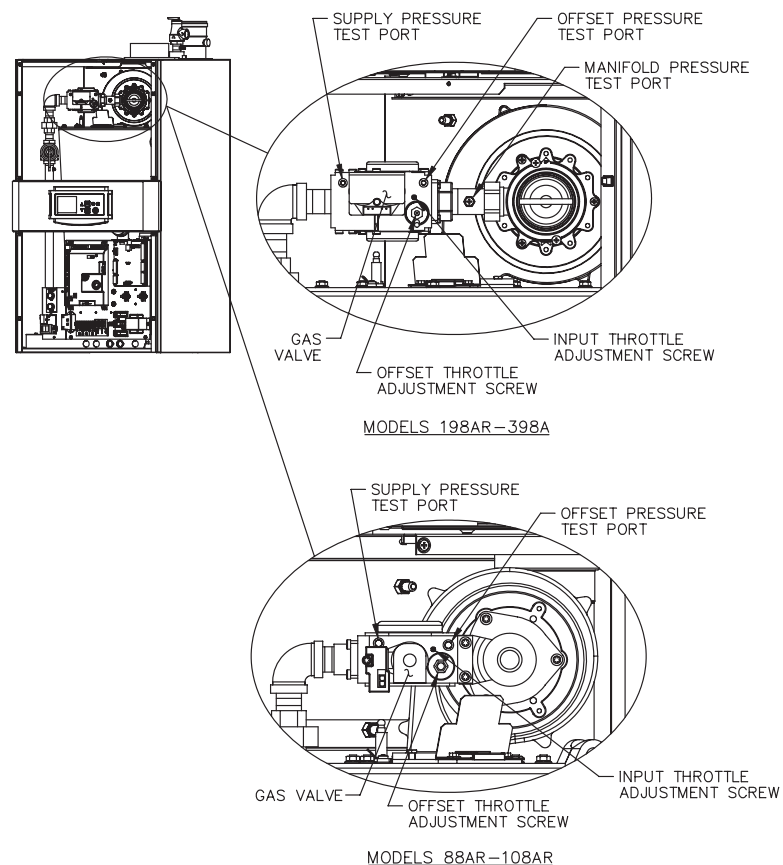

Fig. 54: Gas Pressure Measurement Locations
2. Attach a 24" scale manometer to the supply pressure test port on the gas valve to the heater (see Fig. 54).
3. Attach a 12" scale manometer to the offset pressure testport for Models 88AR-108AR. For Models 198AR-398A attach manometer to manifold pressure tap (see Fig. 54).